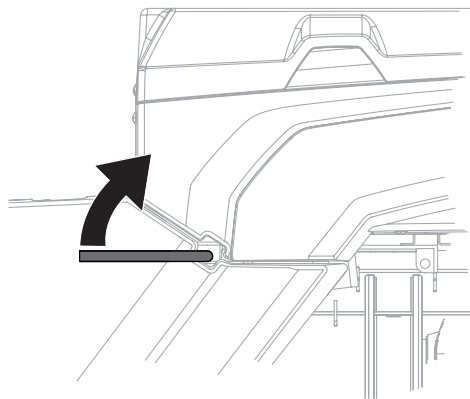

Figure 4-7
3. For light loads, unlatch cargo bed by pulling up on one of the cargo bed release levers. While holding the cargo bed release lever lift the cargo bed. See Figure 4-7.